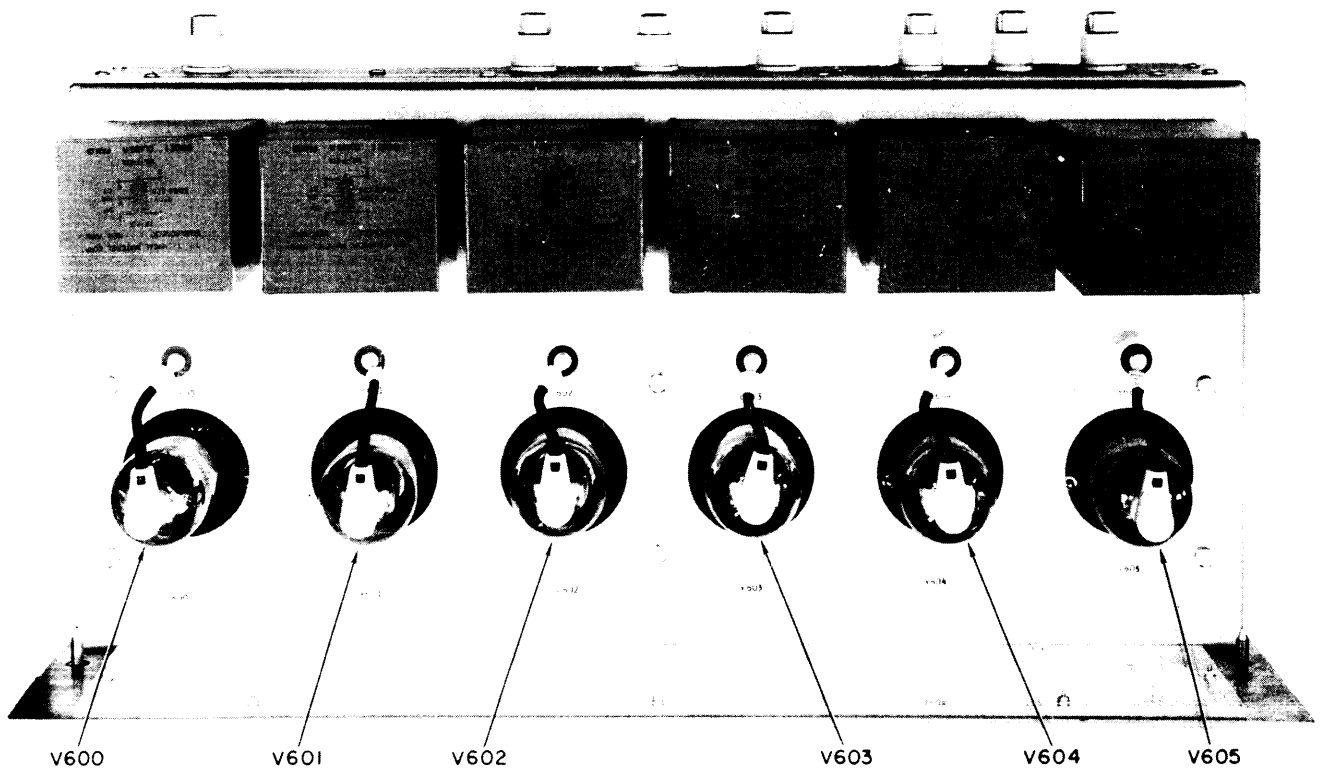

Figure 2-14. High Voltage Rectifier Drawer 600, Top View.
- b. Insert six high voltage rectifier tubes V600 through V605 (contained in crate 1), into tube sockets in high voltage drawer (see figure 2-14).